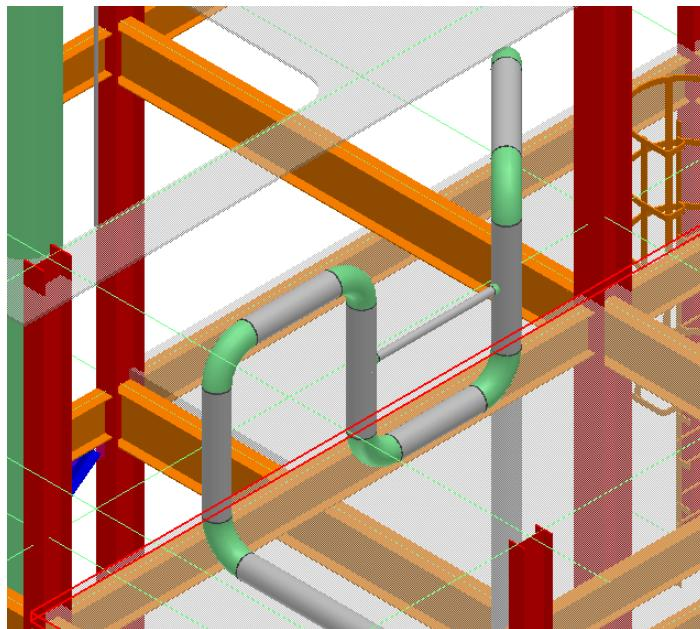

Figure 5: Zoomed Area of the Model
- Click the **Zoom Area** button on the **Common** toolbar and zoom in to the area, as shown in Figure 5.